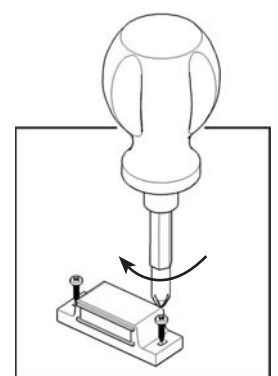

Figure 2
Attach Magnets to Middle Panel (D) with Wood Screws for Magnet. (see Figure 2)